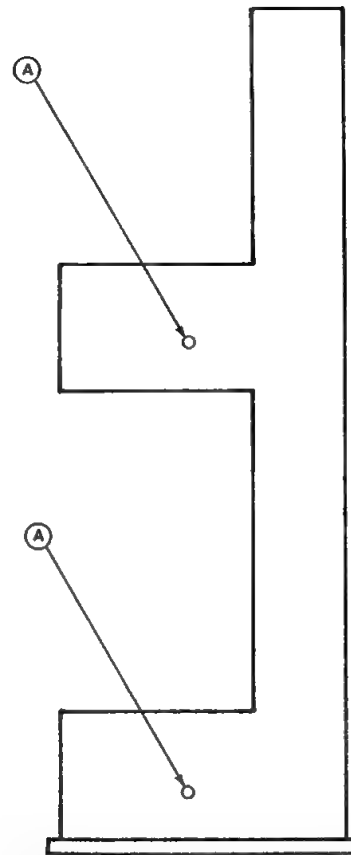

Figure A-2. Shugart SA850 Diskette Drive Mounting Diagram
- b. Center the drive mount base provided on the base of the disk and attach with 2 each 8-32 x 1/4" panhead screws (see Figure A-2).